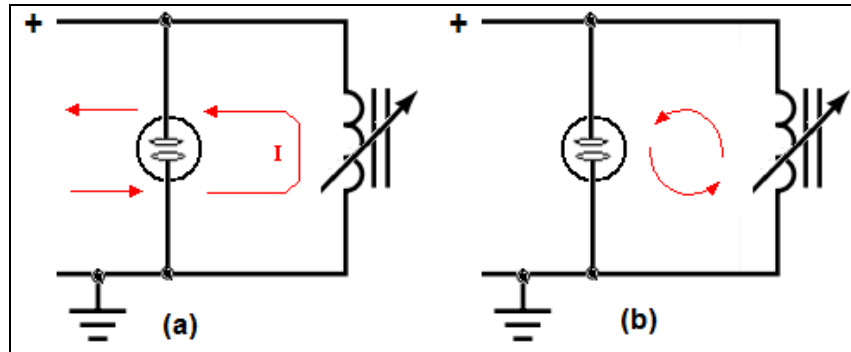

Fig. 1-3 Circuit for Discussion after Step 6
6. Adjust the power supply output voltage to 15 volts. Then repeat **Steps 3-4** noting the effect on the neon lamp as the voltage is connected and disconnected from the circuit, (Fig. 1-3).